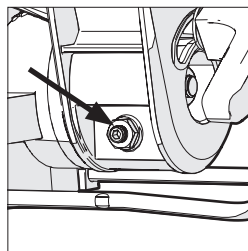

Fig. 10
- Loosen the locknut on the bevel angle adjustment screw with a 10mm spanner and 3mm Hex key (Not supplied) (**Fig. 10**).